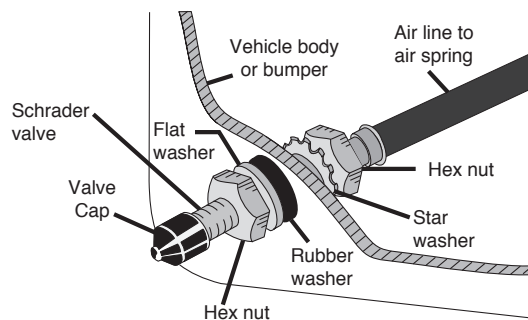

fig. 13
4. Place a 5/16" nut and star washer on the air valve. Leave enough of the inflation valve in front of the nut to extend through the hole and have room for the rubber washer, flat washer, and 5/16" nut and cap. There should be enough valve exposed after installation – approximately 1/2" – to easily apply a pressure gauge or an air chuck (Fig. 13).